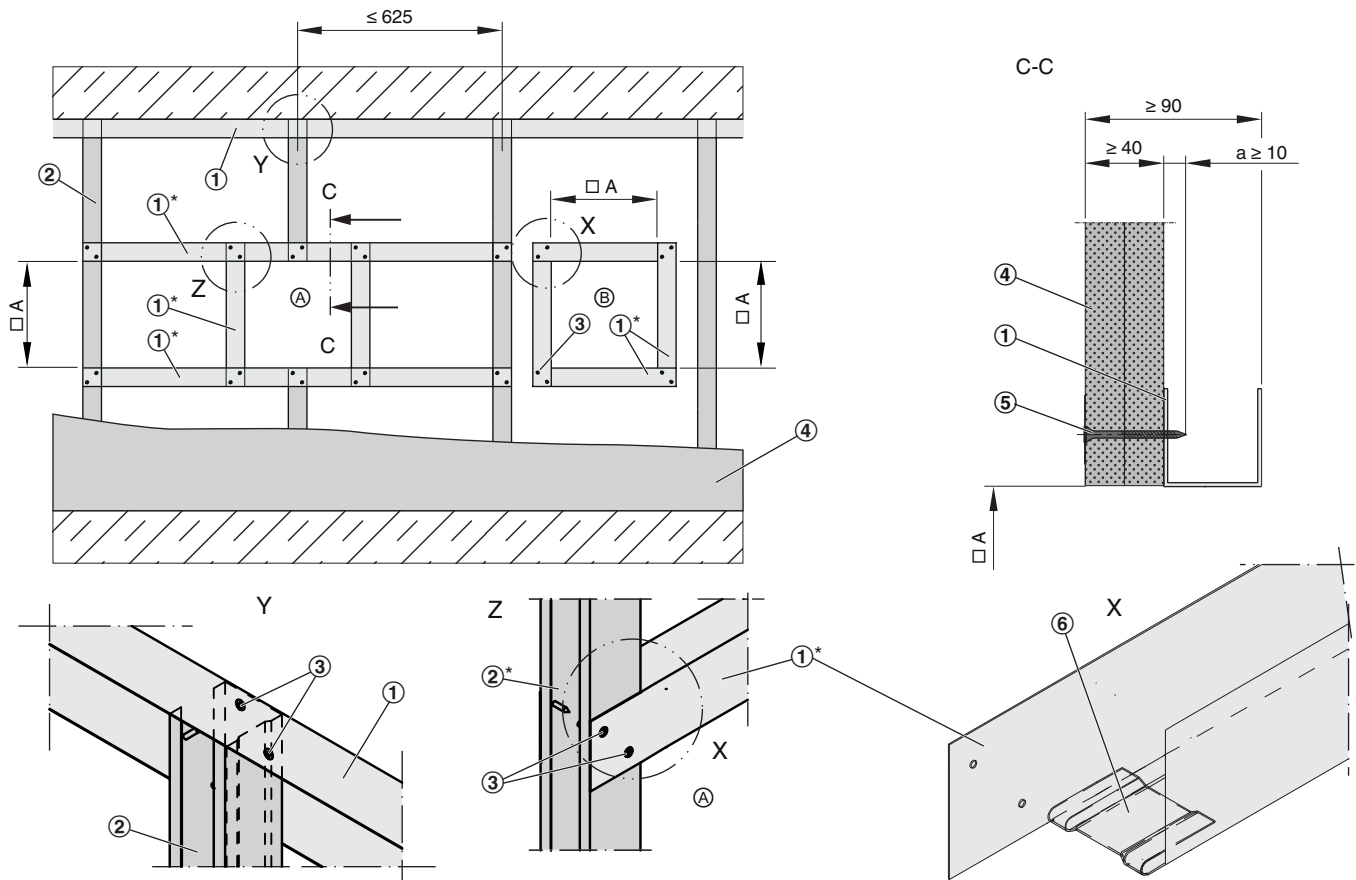

Fig. 28: Lightweight partition wall with metal support structure and cladding on one side
- Erect the lightweight partition wall according to the manufacturer's instructions and create an installation opening, see Fig. 28